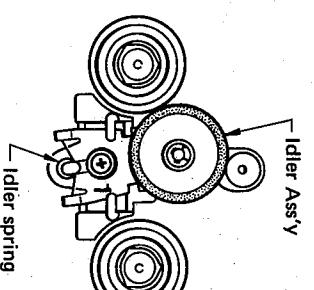

Fig. 6
- d. Remove screw ① and idler spring in fig. 6, and replace the idler ass'y.
- i. Remove screw ① and idler spring in fig. 6, and replace the idler ass'y.
e. Remove screw ① and idler spring in fig. 6, and replace the idler ass'y.
i. Remove screw ① and idler spring in fig. 6, and replace the idler ass'y.
m. Remove screw ① and idler spring in fig. 6, and replace the idler ass'y.
q. Remove screw ① and idler spring in fig. 6, and replace the idler ass'y.
u. Remove screw ① and idler spring in fig. 6, and replace the idler ass'y.
y. Remove screw ① and idler spring in fig. 6, and replace the idler ass'y.
cc. Remove screw ① and idler spring in fig. 6, and replace the idler ass'y.
gg. Remove screw ① and idler spring in fig. 6, and replace the idler ass'y.
kk. Remove screw ① and idler spring in fig. 6, and replace the idler ass'y.
oo. Remove screw ① and idler spring in fig. 6, and replace the idler ass'y.
ss. Remove screw ① and idler spring in fig. 6, and replace the idler ass'y.
ww. Remove screw ① and idler spring in fig. 6, and replace the idler ass'y.
aa. Remove screw ① and idler spring in fig. 6, and replace the idler ass'y.
ee. Remove screw ① and idler spring in fig. 6, and replace the idler ass'y.